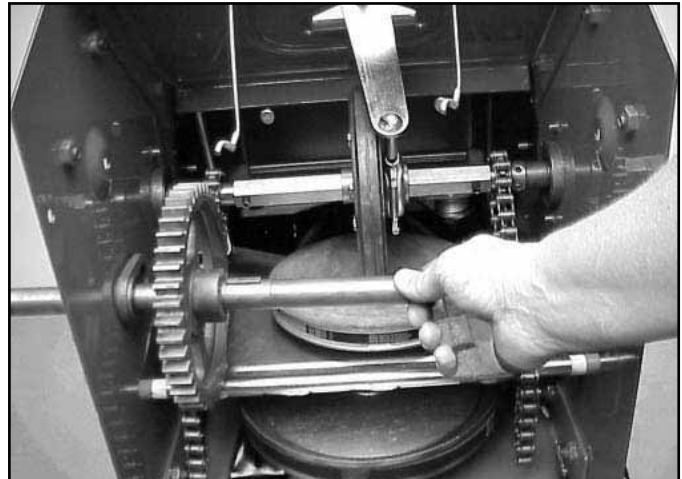

Fig 159
11. Slide one end of the axle shaft with tube into the housing (Fig. 159).